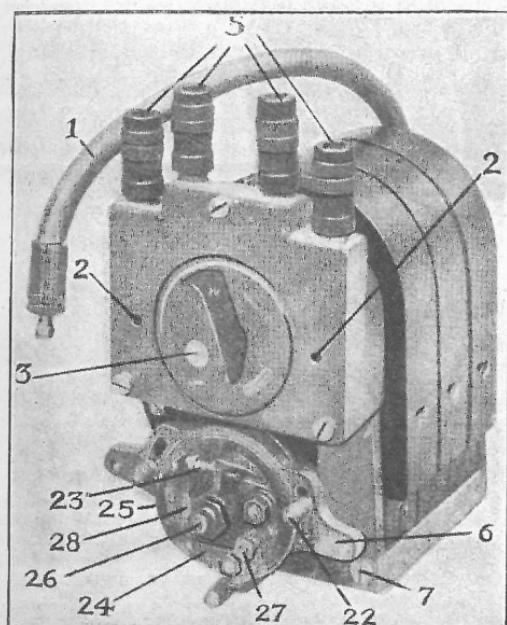

Fig. 3—A high-tension magneto, showing contact-breaker and high-tension distributor.
In Figs. 3 and 4 is shown an actual magneto—the "Eisemann"—with its parts numbered. It is intended for a four-cylinder engine. In Fig. 3 can be seen a metal cap and nut (26), to which the insulated end of the armature primary is connected. From here the current is led to the platinum make-and-break contact (23), which in the ordinary way makes contact with an "earth" connection. The other